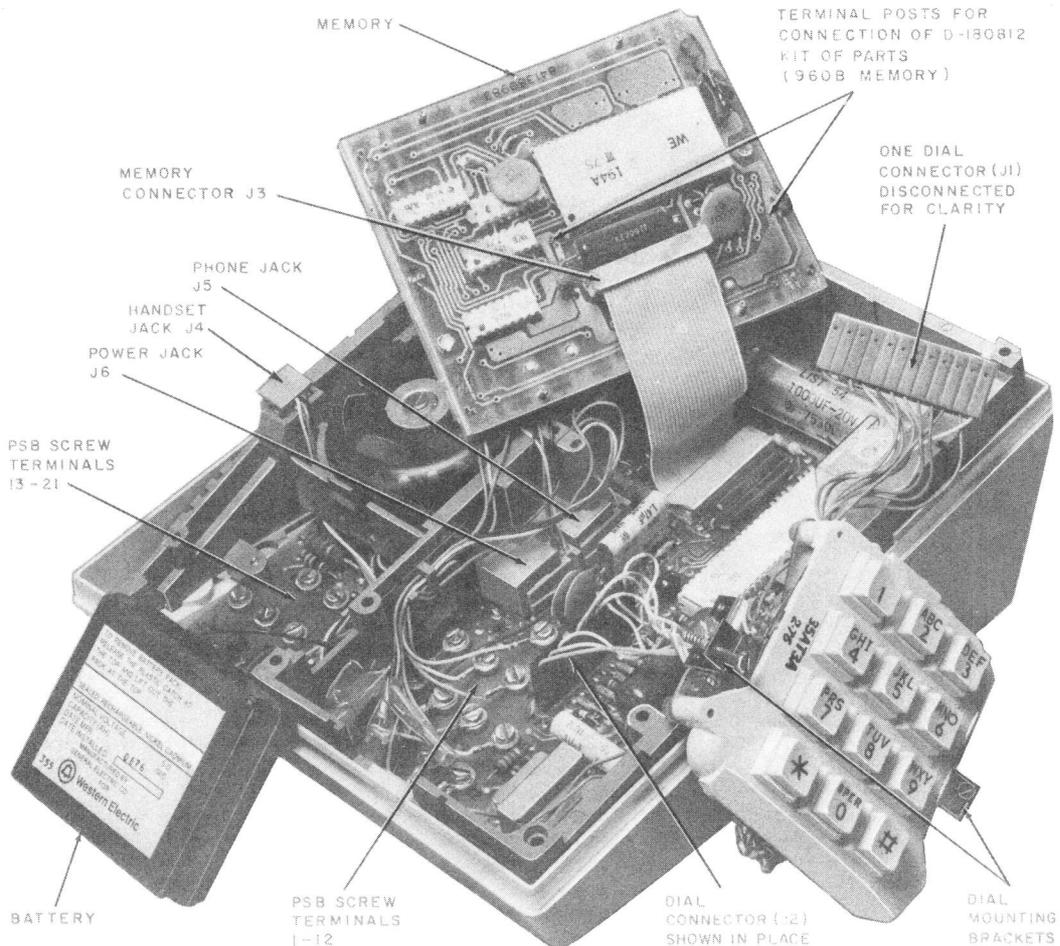

Fig. 6—2960A01M Chassis and Lower Housing With Dial, Memory, and Battery Laid Aside and Shield Removed
- (8) Rotate the right edge of the memory upward (Fig. 6) and connect the three leads to the terminal posts on the 960B Memory per Table D.